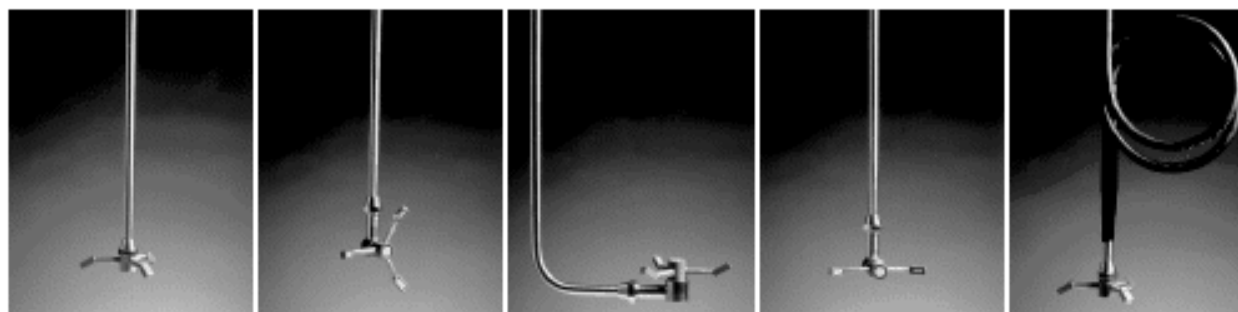

Figure 3 – Probes: (a) Down-looking 3D, (b) Side-looking 3D, (c) Up-looking 3D, (d) Side-Looking 2D, (e) Cable-Mounted
- The acoustic sensor (Figure 3) consists of two or three acoustic receivers (for 2D or 3D probes) and one acoustic transmitter. The sensor can be mounted on a stainless steel stem (25 or 40-cm long) or on a 100-cm flexible cable. The acoustic sensor can be oriented looking down, to the side (mounted on a 90° adapter), or up (with a bent stem and a 90° adapter).